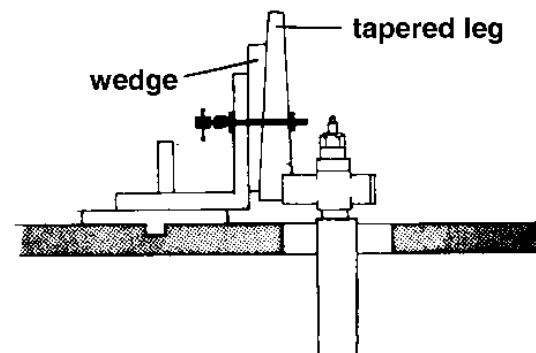

Figure 65
**Note:** If the leg is tapered, use a wedge to place the side facing the cutter into a 90-degree vertical position as shown in Figure 65.